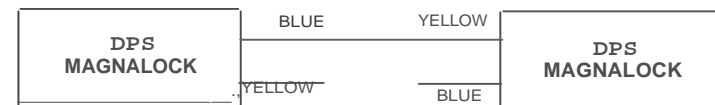

Figure 25. Double Door Status Wiring-OPS
1. CONNECT the blue wire of one lock to the yellow wire of the other as shown in Figure 25, "Double Door Status Wiring- OPS."